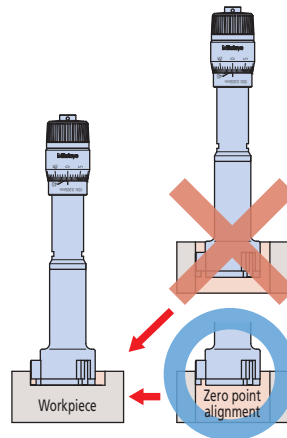

Fig. 1
4. If measuring using only the tip of the anvil, make sure to set the zero point at the same bore depth within the calibrated setting ring. **(Fig. 1)**